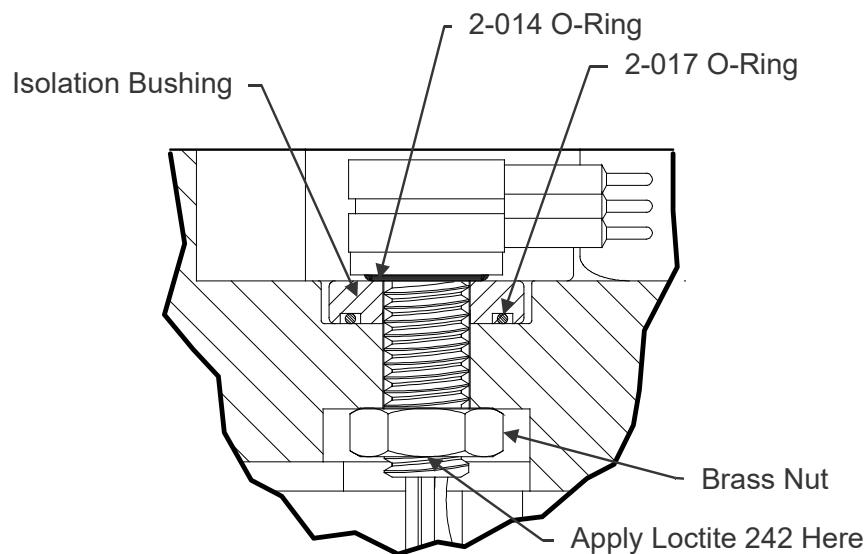

Figure 69. End-Cap Connector with Isolation Bushing
3. Systems with a metal end-cap use an isolation bushing and 2-017 O-ring between the end-cap and the 7-pin connector. Press the new bushing and O-ring onto the end-cap as shown in Figure 69.